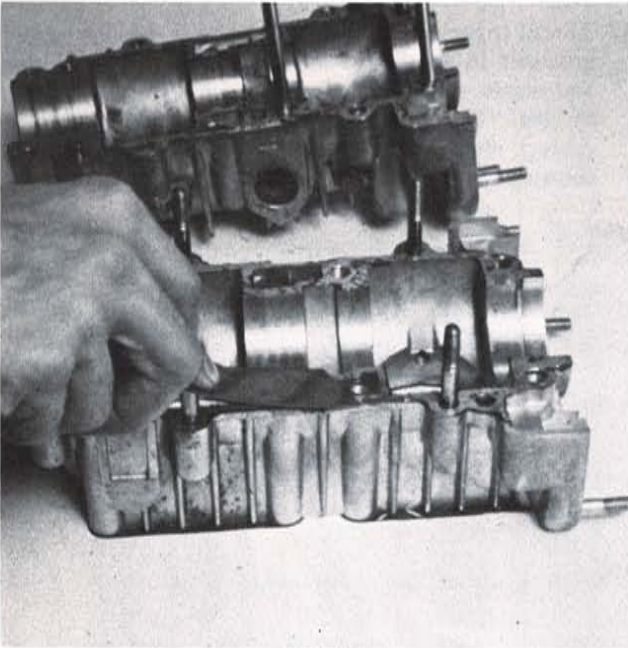

FIG. 30
1. Thoroughly clean mating surfaces of upper and lower crankcase halves. (Fig. 30)